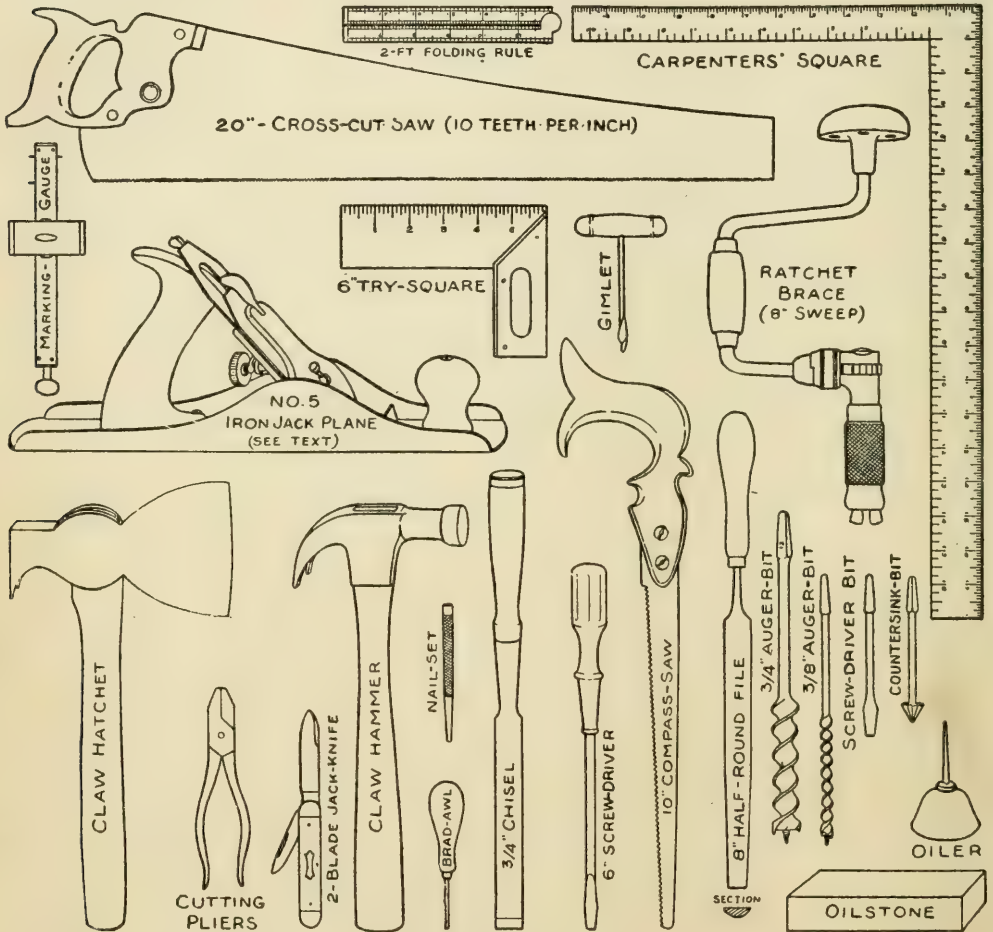
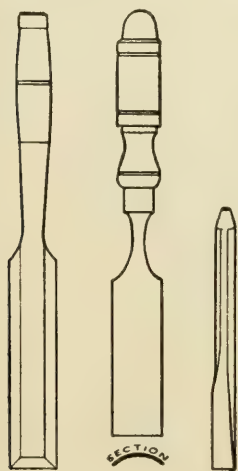

FIG. 16. — A Small Tool Outfit.
FIG. 28. Beveled Chisel. FIG. 29. Gouge. FIG. 30. Cold-chisel.
**The Principal Tools** which a boy requires. If you cannot afford more at the start, add to them as soon as you can. Figure 16 shows illustrations of
**Jack-knife.** By this is not meant a four-blade pocket-knife with a polished pearl handle, but just a common knife, strongly made, and having blades of steel properly tempered so they will hold an edge. A two-blade knife with wooden handle similar to that shown in Fig. 16 is a desirable form for all-round work, and is made in a medium-priced knife with blades of a good quality of steel.
A Hatchet with a claw (Fig. 16) is to be preferred to one without, as it may be used for withdrawing nails as
**A Hammer.** Get a medium-sized claw hammer, either with a *bell* face (Fig. 16) or a *plain* face,—it does not matter which,—and if possible get one with the head fastened on with *patent-lock* wedges which make it impossible for it to loosen and fly off.
before finishing it. A *cut* iron nail may be used, but it is not as satisfactory as the regular nail-set shown in Fig. 16. You will find it handy to have two sizes, one for *finishing-nails*, the other for *common nails*.
**The Cross-cut Saw** (Fig. 16) is made to cut across the grain of wood. It will also cut with the grain, but as the teeth1 are not properly prepared for *ripping*, the work is slower to do. When money permits, you should add a 22-inch
**Compass-saw** (Fig. 16) is made especially for cutting curves, the teeth being filed to cut with as well as across the grain, and it is handy for sawing thin wood. A finer saw which you may prefer to the compass-saw is the
**A Jack-plane** (Fig. 16) fitted with a *smoothing-plane iron* is to be preferred to a smoothing-plane, if one plane must be chosen, for its long *sole* (bottom face) makes it easier to plane up a surface without hollowing it. This plane, thus equipped, may be used for both reducing thicknesses of material and removing *undressed* surfaces (the purpose of the jack-plane), as well as planing up surfaces true and smooth (the purpose of the smoothing-plane). The jack-plane iron has its cutting edge slightly rounded, instead of being ground straight across like the smoothing-plane iron, in order to make it gouge out the wood and thus reduce thicknesses quickly, so you will readily see that it cannot be expected to straighten up a surface. Of course you can buy the two irons and make the plane the equivalent of a jack- and a smoothing-plane. The Stanley "Bailey" adjustable iron plane shown in the illustration is a better form to purchase than the old-fashioned plane with a wooden stock, as it is so easily adjusted. The No. 5 size (Fig. 16) is 14 inches long
A  $\frac{3}{8}$ -inch and a  $\frac{3}{4}$ -inch auger-bit are included among the tools shown in Fig. 16. Of course, it is often necessary to bore holes of other sizes, and
**Brad-awls** are the simplest and cheapest tools manufactured for making very small holes for nails and screws (Fig. 16). They are sold in various sizes, one or two of which will be useful. A
**Hand Gimlet** (Fig. 16) is also handy for boring small holes.
**Rose Countersink Bit** to fit in your brace (Fig. 16). This is used after a screw hole has been bored, and bevels off the edge of the hole enough to let the screw-head drop below the surface.
**Screw-driver Bit** (Fig. 16).
A  $\frac{3}{4}$ -inch chisel is included in the outfit shown in Fig. 16. This size will be found best for a starter. You will soon require a smaller chisel — one about  $\frac{1}{4}$  inch wide,
blade to make them handy for getting into corners (Fig. 28). For cutting curved grooves and curved surfaces a
necessary, they should be protected by a leather cap (Fig. 16) or a metal *ferrule* (Fig. 28), to keep the wood from splitting. The chisel or gouge which fits into the handle (Fig. 29) is strong enough for hand use (*paring*), but those made with sockets for the handles to fit into (Fig. 28) are better for mortising and other work where driving is necessary. A
**A Half-round Wood-file** (Fig. 16) may be used for smoothing up all sorts of irregular surfaces and is the best kind to purchase for a small outfit of tools. The
**Two-foot Folding Rule** (Fig. 16) is required, and either a *try-square* or a *carpenter's square* is necessary for laying out lines at right angles to another line or to the edge of a piece of work, for testing corners to see whether or not they are square, and for testing surfaces for irregularities. The writer prefers a
**Try-square** with a *mitered* handle (Fig. 16), as lines at 45 degrees may be laid out with it. The large size of
**Carpenter's Steel Square** has a *body* (the long end) 24 inches long and a *tongue* (the short end) 18 inches long; but a smaller size with a body 18 inches long and tongue 12 inches long (Fig. 16) will serve your purpose just as well and will be cheaper to buy and lighter to handle.
**A Marking-gauge** (Fig. 16) consists of a block of wood (the *head*) through which slides a graduated stick (the